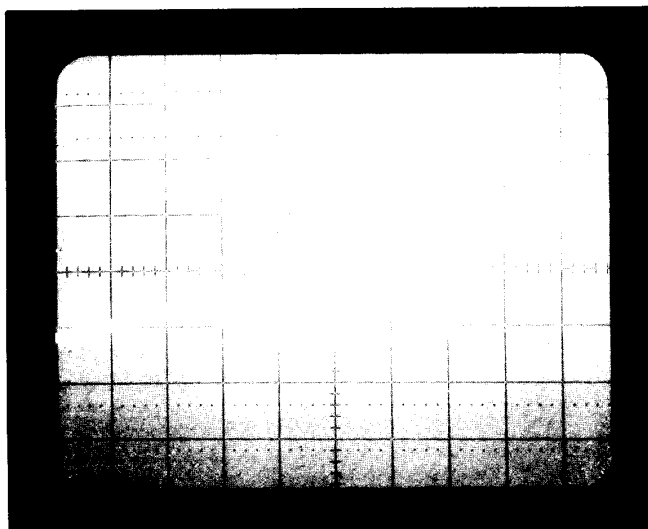

Figure 4-7. Detection Slope
7. Decrease REFERENCE LEVEL by 10 dB and place trace at mid-screen by turning the TUNING control counterclockwise. A positive-slope ramp (a portion of the 300 kHz bandwidth filter trace) should now be centered on the display (see Figure 4-7).